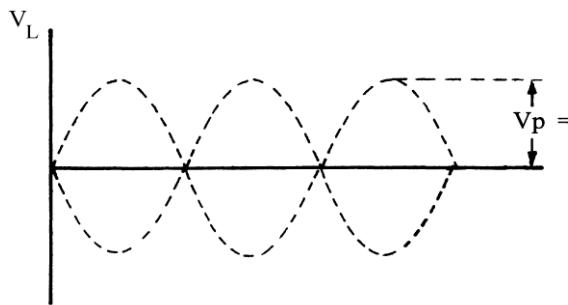

Figure 15
- Draw the output voltage waveform (VRL) in detail as measured by the oscilloscope on the axes shown in Fig. 15 and record the voltage value next to V_p (peak voltage).